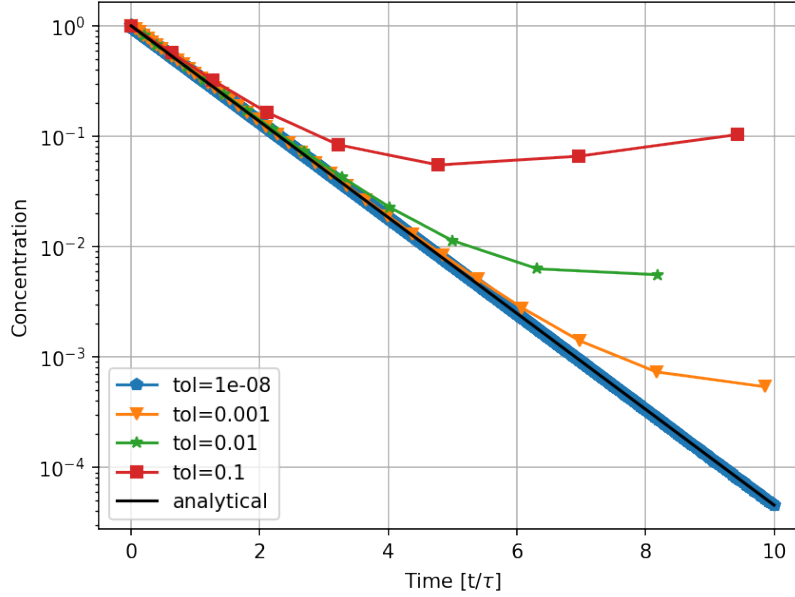

Figure 3: The concentration in the tank using adaptive Euler. Number of Euler steps are: 3006, 117, 48 and 36 for the different step sizes.
In figure 3 the result of the implementation is shown. Note that the number of steps for an accuracy of 10^{-6} is only about 3000. Without knowing anything about the accuracy, we would have to assume that we needed a step size of the order of h in order to reach a local accuracy of h because of equation (12). In the